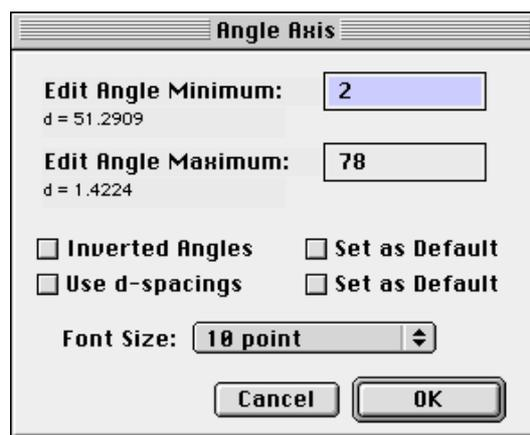

Fig. 17
**Angle Axis...** (or click angle scale) opens the appropriate dialogue window for the horizontal angle axis (Fig. 17). Enter your valid initial and final angle here. For an inversely oriented diagramme, i.e., going from right to left (relevant for users familiar with analogue scripts), click '**Inverted Angles**'. '**Use d-spacings**' switches to an alternative d-value display (in Angstrom). Click '**Set as Default**' for a permanent setting.